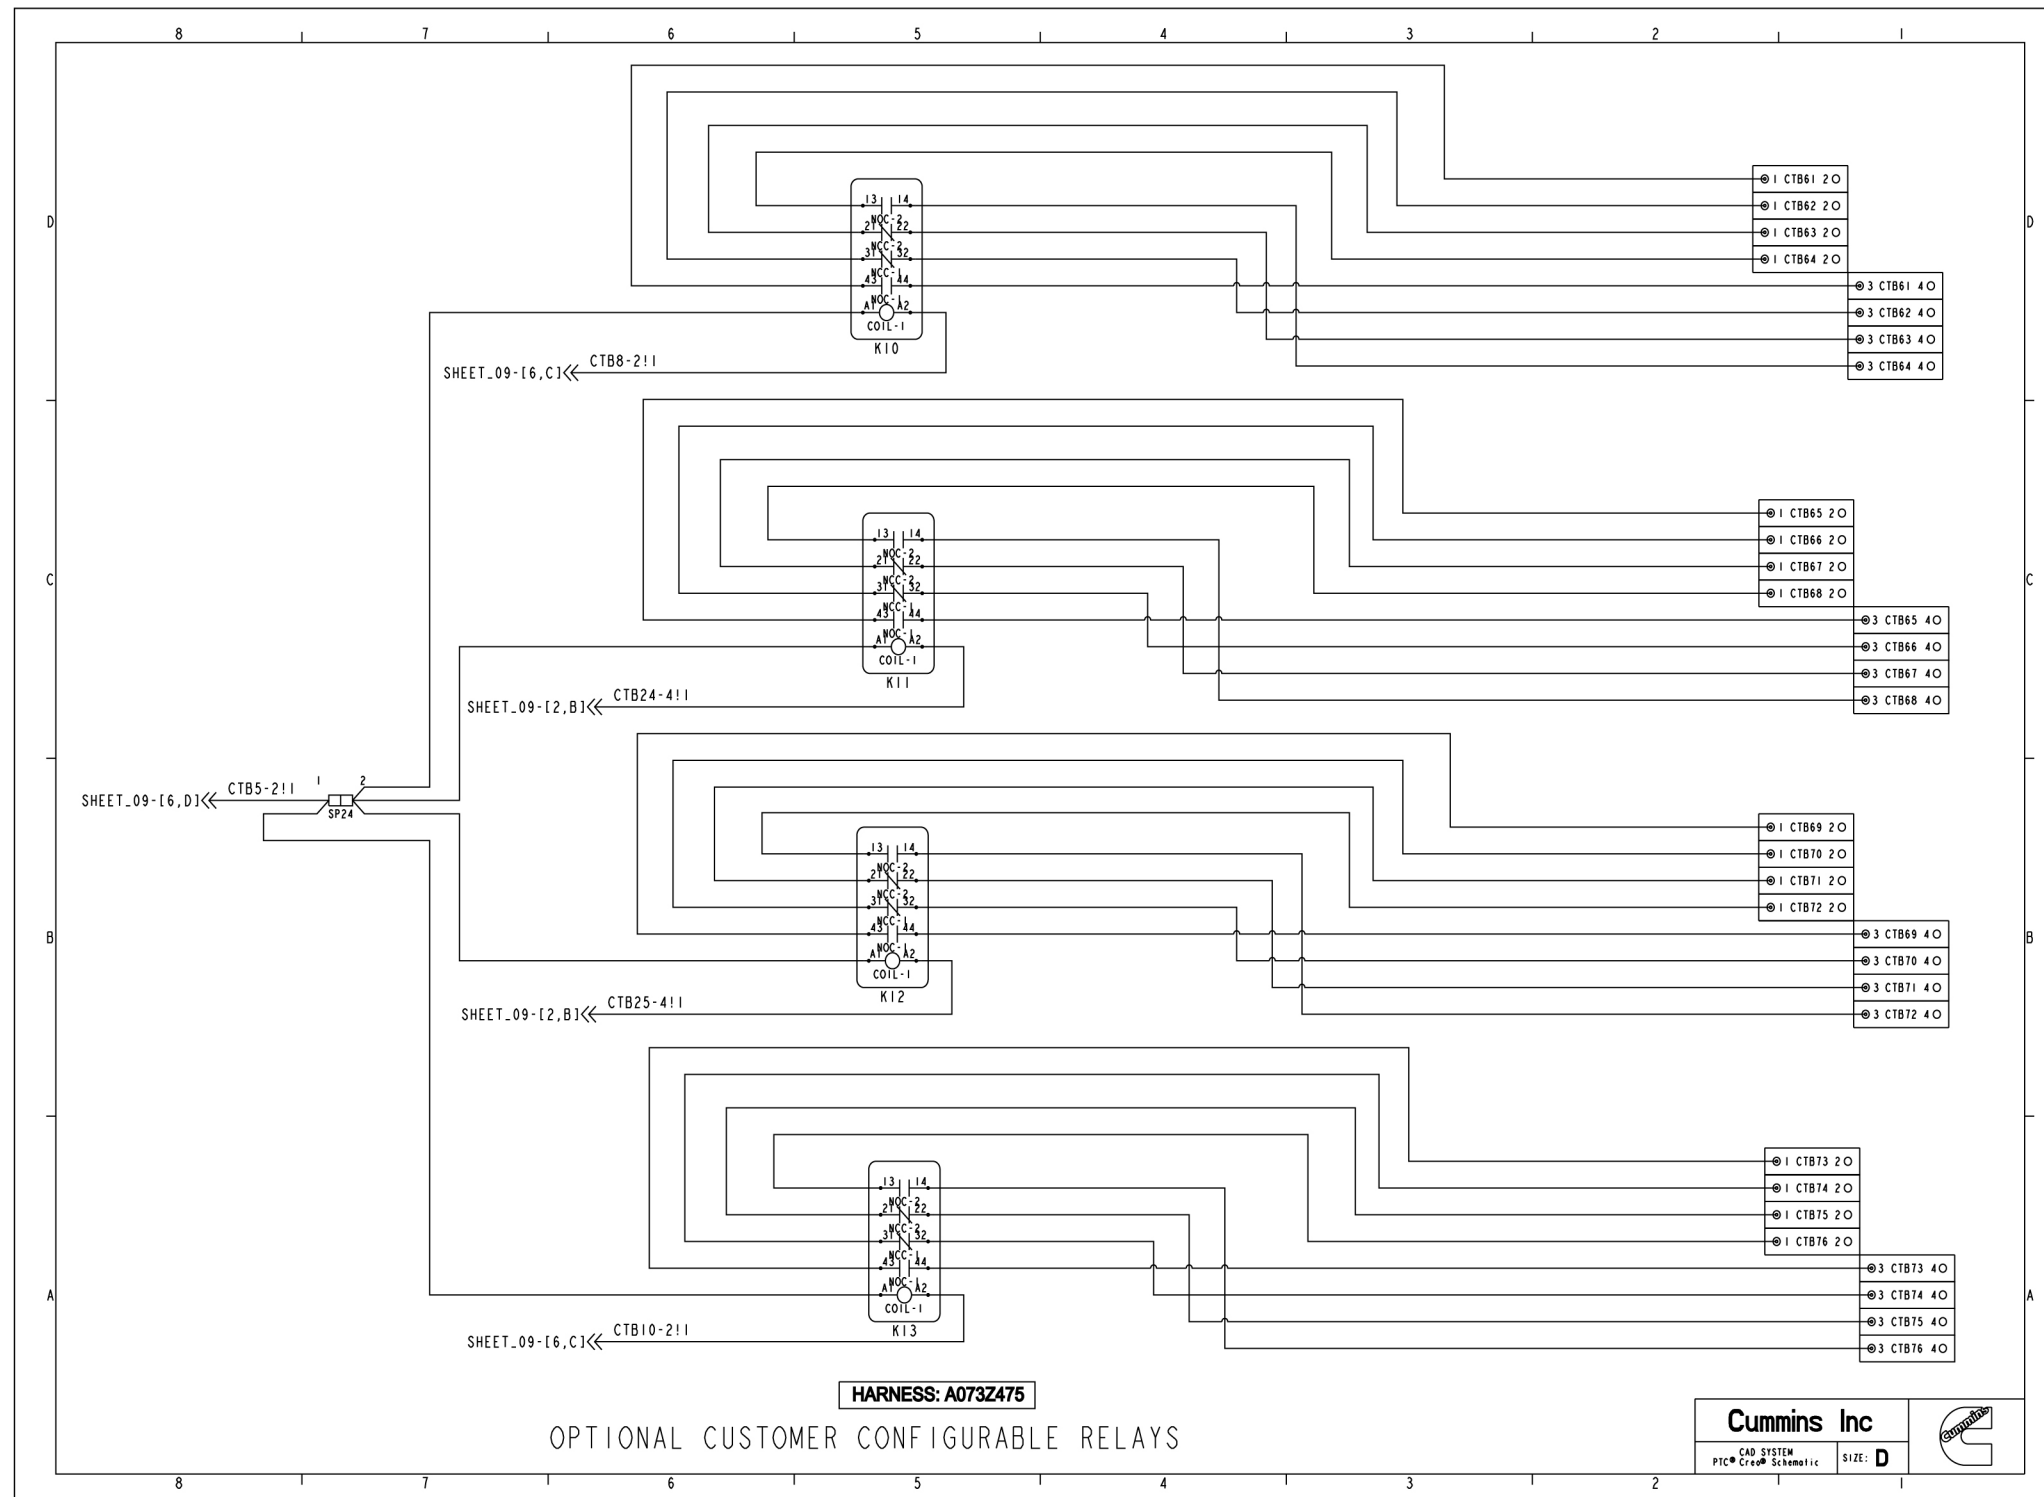

FIGURE 99. WIRING SCHEMATIC (SHEET 15)
- Figure 99. Wiring Schematic (Sheet 15) 403